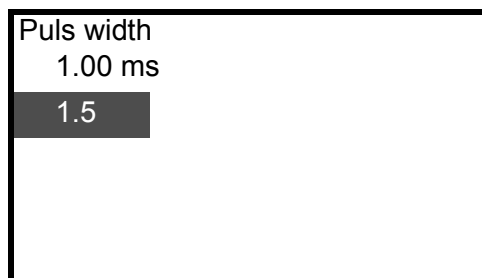

Figure 27 Pulse width input
2. A display for numerical value entry will then appear. (Figure 27) Enter a six-digit number including a decimal point for the pulse width. Once the number has been inputted, press F4 (ENTER) to return to the Puls outp config menu. If F3 (ESC) is pressed here, the change will be aborted and you will be returned to the original menu.